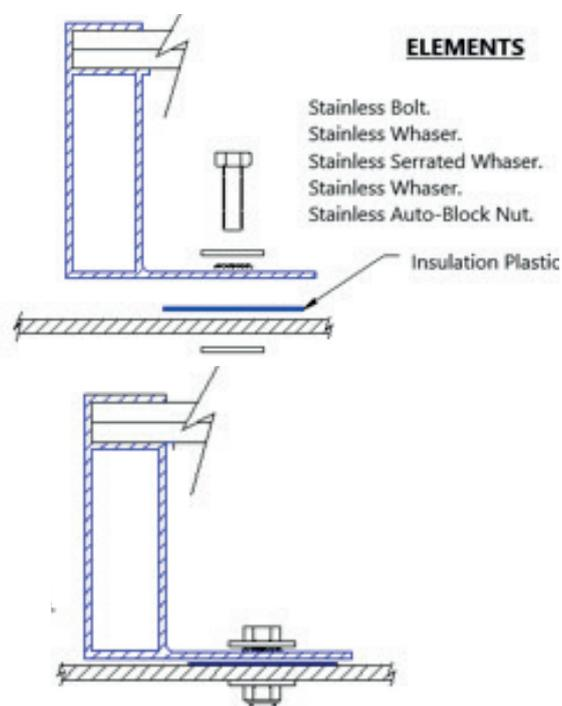

Figure 6.1.1. Screw Fixing Elements.
- Place the solar modules on the structure where they are to be installed, go through the panel frame and the structure itself with the screw, using the holes prepared for it, place a flat washer, a pressure washer and finally tighten the appropriate nut, exerting adequate pressure to fix the assembly. (You can see the union of the elements in figure 6.1.1.).